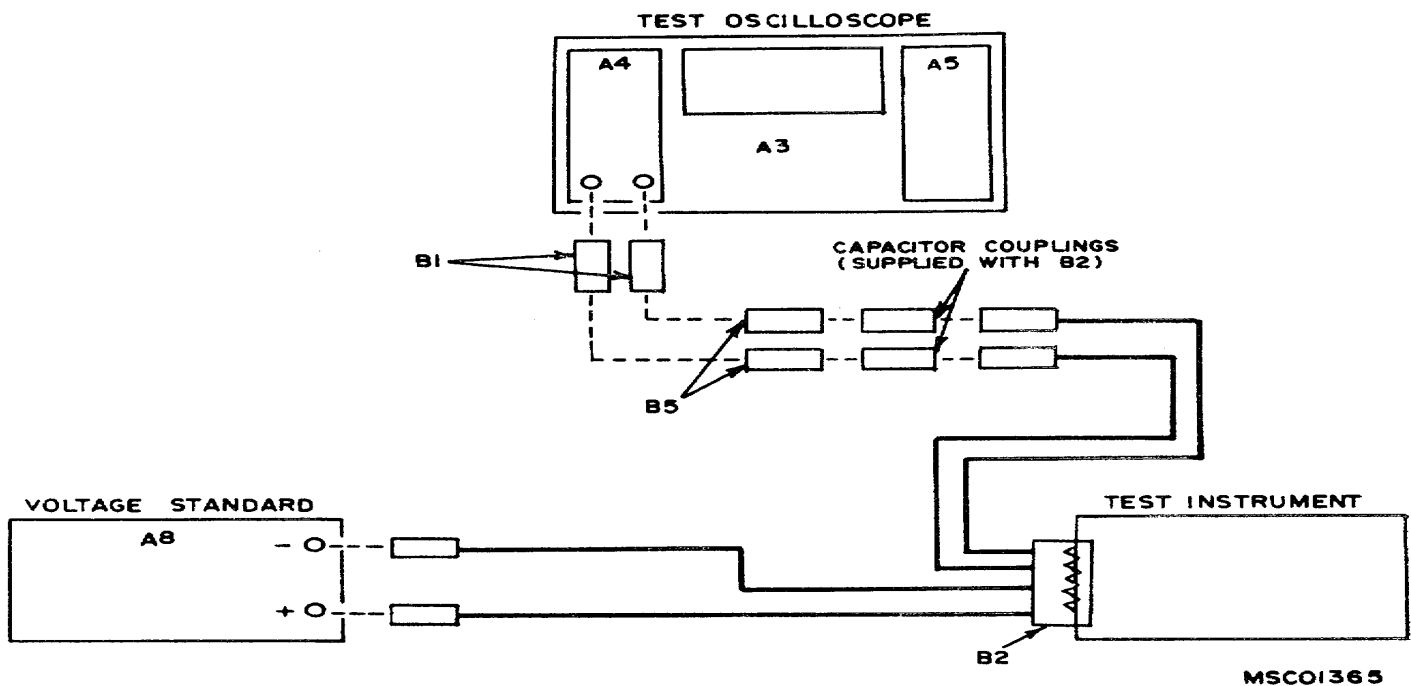

Figure 1. Calibration adapter - equipment setup.
(1) Connect equipment as shown in figure 1.
(4) Connect equipment as shown in figure 1, except for adapters (BI and B3).
(5) Turn TI REPETITION RATE switch to **050 kHz** (MED) and adjust AMPLITUDE control for 4 centimeters of vertical deflection on oscilloscope crt.
(6) Measure rise time, using standard rise-time techniques. Rise time will be 3 nanoseconds or less. Overshoot and ringing will be less than 2 percent of total height.